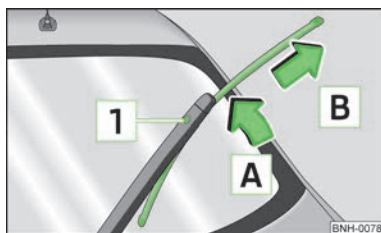

Fig. 30
- Raise the windscreen wiper arm from the rear window and slightly tilt the windscreen wiper blade towards the wiper arm, arrow **A** » Fig. 30.